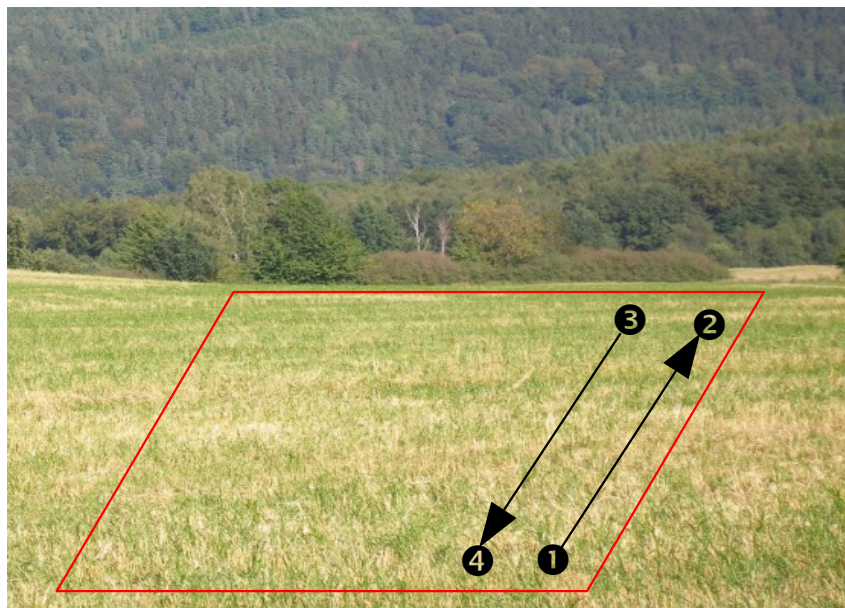
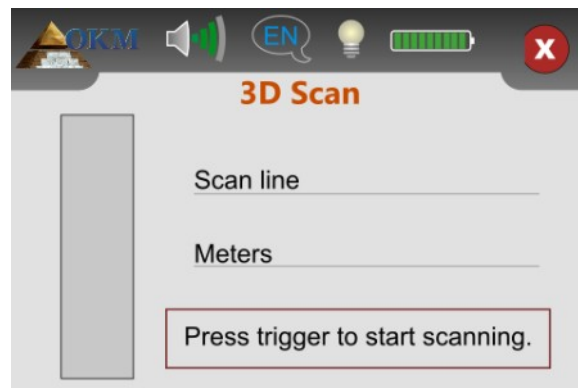

Figure 9.5: Measure area for a survey in mode "3D Scan"
Figure 9.10: Start scanning in operating mode "3D Scan"
As soon as the screen from figure 9.10 appears on the display, the soil reconciliation is finished and the measurement can start.
Position yourself on the beginning of the 1. scanning path, i. e. point ❶ from figure 9.5 on page 54 and hold the probe straight downwards as you already did during the soil reconciliation. Now push the trigger to start the measurement. Walk evenly and with constant speed to the end of the first scan line (point ❷). As soon as the message from figure 9.10 appears on the display again, you should have reached point ❷.
Now you have to go to point ❸ and push the trigger again to measure the second scanning path too. As soon as the message from figure 9.10 appears again, you should have reached point ❹.